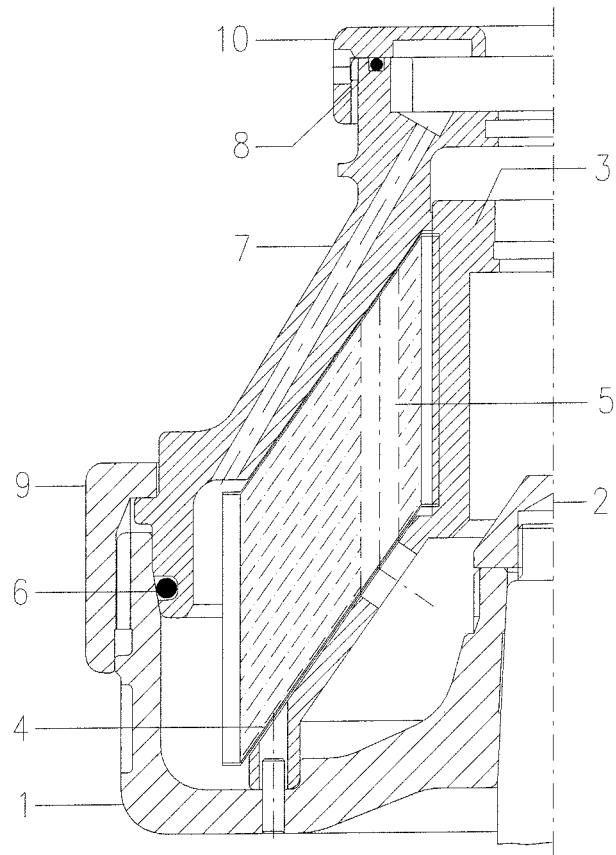

Figure 6.1
The bowl is supplied separately from the rest of the machine, so before setting at work the machine, it must be dismantled and assembled on vertical shaft in the frame. The bowl, rotating at high speed, is subjected at high stress that could compromise the operating safety of separator in case the bowl has been improperly assembled and cleaned. In *Figure 6.1* are shown all the main pieces of the bowl.
- 3) By the suitable spanner (09.040.0), screw tight the **bowl body nut** (part 2 in fig. 6.1). By the hammer (09.030.0) give some blows to the spanner to be sure that the nut is well fixed.
- 5) Insert the **disks**. The disks can be inserted in the distributor only in one way. As shown in Fig. 6.5, over the distributor is marked a big “0” that must be aligned with “0” marks of the bowl body. To insert disks, rotate them until the small slot (1- fig. 6.5) made on the internal upper edge is in front of the distributor groove (2); then make them glide on the distributor fins. Insert at first the **bottom disk** (Fig. 6.1, part 4) that distinguishes itself by having spacers on both surfaces. Then insert the intermediate disks (Fig 6.1, part 5). Take care to not change the sequence of the disks.
- 7) After carefully cleaning the groove, insert the OR gaskets on bowl hood (fig 6.1, part 6).
11) By the spanner (09.020.0) screw the **big lock ring** (fig 6.1 - part 9) that has left-handed thread. It must be possible screw by hands the ring until the "0" mark is at least 1 cm. before the "0" mark of the bowl body (if this does not happen, it means that the assembly is not correct or the number of disks is wrong). Then fasten it down as much as possible by striking with mallet (09.030.0) the spanner handle. Now the "0" marks must be aligned. In case the bowl is not new and the parts start being worn, the "0" mark of the ring will go beyond the "0" mark of the bowl body. The distance between the two references must not exceed 3 cm.